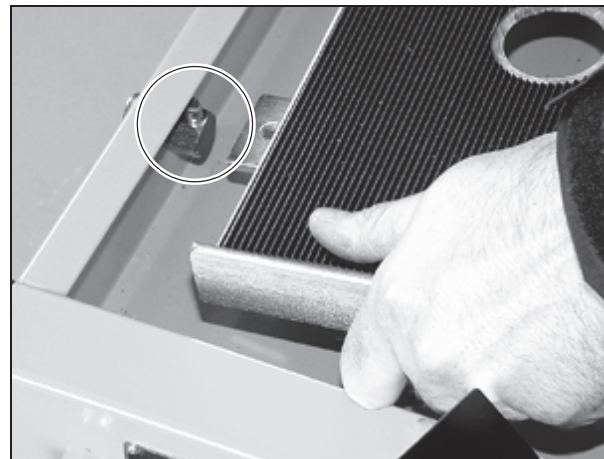

Fig. 5.1 Seat of the work table
- Remove the work table before you clean the water trough. The work table only hangs in the frame (fig. 5.1) and can be taken out easily.